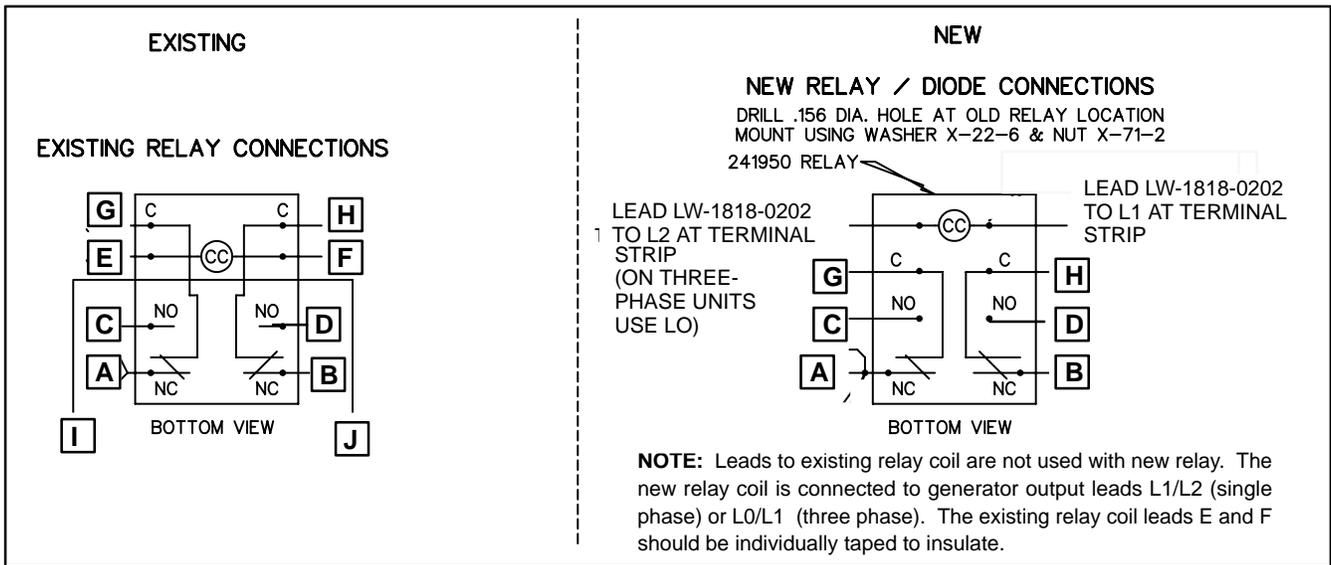
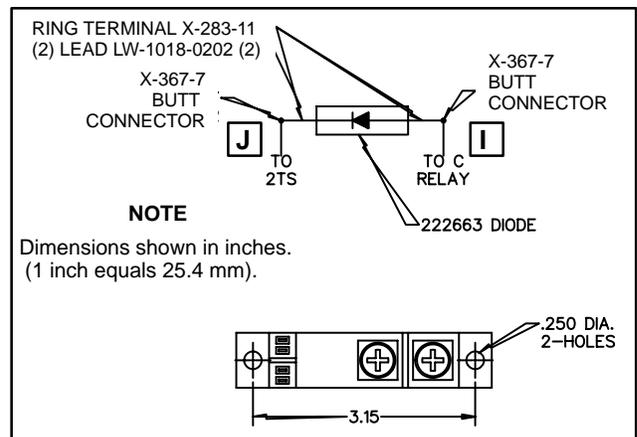

Figure 4. Wiring Diagram for CC Relay
Figure 5. Diode Mounting Instructions
3. Examine existing CC relay and compare to the illustration in Figure 4. Identify the leads using the letters shown in Figure 4. Do this using masking tape or some other means to properly identify each lead.
Locate diode (222663) in a location to which 10-ga. leads will reach and drill two 0.25 in. (6 mm) dia. holes to mount diode. See Figure 4. Mount diode using two screws (X-50-3), lock washers (X-22-9), and nuts (X-70-2). Connect leads (I, J) to diode observing connection provided in Figure 5.
7. Drill one 0.156 in. (4 mm) dia. hole to mount new relay. See Figure 4 for drilling instructions. Location should be as near as possible to old relay location.
- Connect remaining controller leads to relay using Figure 4 and appropriate wiring diagram.